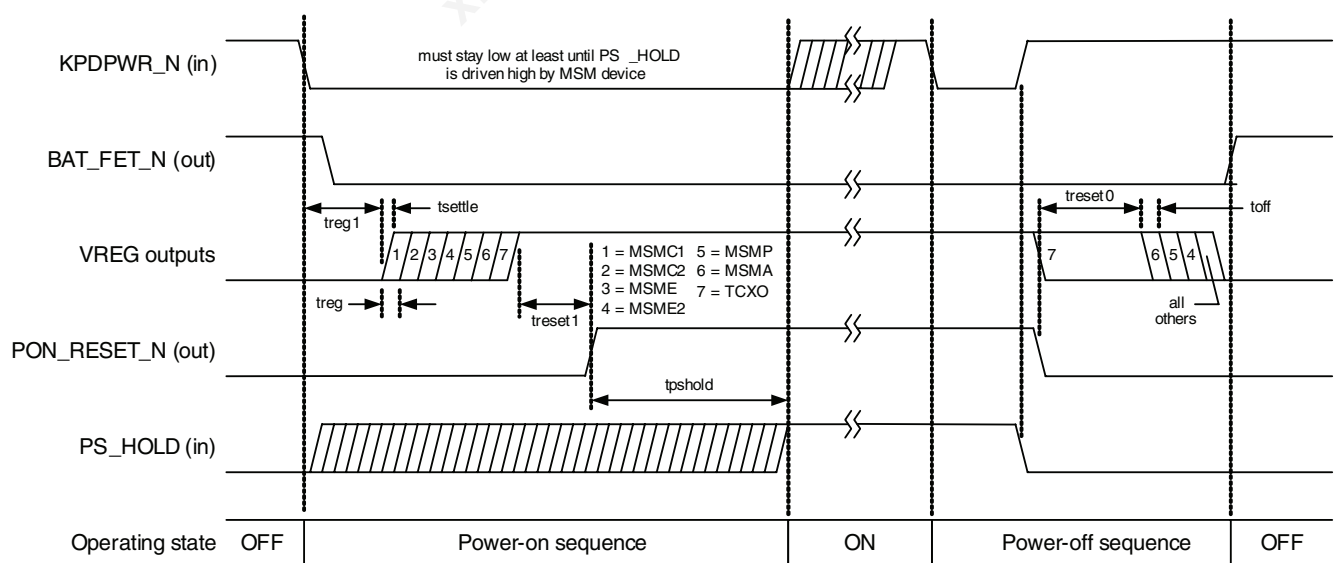

Figure 3-10 High-level power sequences timing diagram
- ² All time intervals are derived from the selected clock source (32.768 kHz typical); their tolerances are set accordingly. See Figure 3-10 and the *PM7540 Power Management IC User Guide* (80-VD691-3) for further discussion.
- ⁴ There is a delay of four SLEEP_CLK cycles after one regulator settles before the next regulator is enabled. Each regulator will settle to within 9% of its final value within four SLEEP_CLK cycles. The regulators are turned on in the following order (as illustrated in Figure 3-10): 1 = MSMC1, 2 = MSMC2, 3 = MSME, 4 = MSME2, 5 = MSMP, 6 = MSMA, and 7 = TCXO.